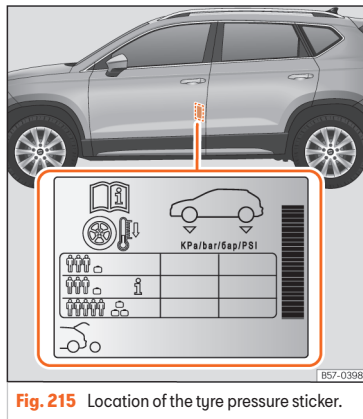

Fig. 215 Location of the tyre pressure sticker.
- Adjust tyre pressure to the load being carried by the vehicle »»» **Fig. 215**.
The values of the tyre pressure are shown on the sticker label located on the read frame of the front left door »» Fig. 215.
The tyre pressure must be adjusted according to the load the vehicle is carrying. If the vehicle is going to be fully loaded, increase the tyre pressure to the maximum load value shown on the sticker label »» Fig. 215.
In the case of a minimised temporary spare wheel (125/70 R16 or 125/70 R18) inflate to a pressure of 4,2 bar as indicated on the tyre pressure label »» Fig. 215.
Depending on the vehicle, tyre pressure can be adjusted to medium load to improve driving comfort [tyre pressure **i** »» Fig. 215]. When driving with comfort tyre pressure fuel consumption may increase slightly.
- **The driver is responsible for ensuring that all of the vehicle tyres are correctly inflated to the right pressure. The recommended tyre pressure is indicated on the label »» Fig. 215.**
- **Tyre pressure should be that indicated on the label when the tyres are cold at all times »» Fig. 215.**